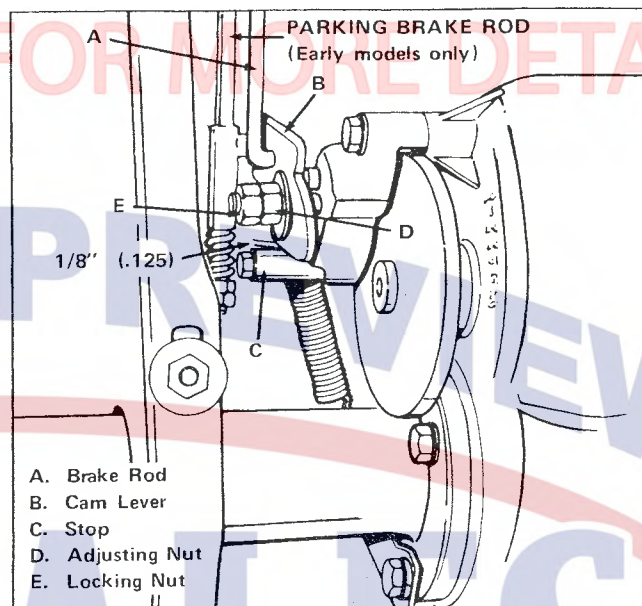

Figure 24. Brake Pad Adjustment
- Push brake cam lever (item B, figure 24) forward by hand to take any slack out of the brake linkage. With the cam lever fully forward, the gap between the rear of the cam lever (item B) and the cam lever stop (item C) should be 1/8 inch (.125). This measurement must be done accurately to ensure good brake performance. Use a feeler gauge to measure the gap. If gap is not 1/8 inch, proceed to step 3.